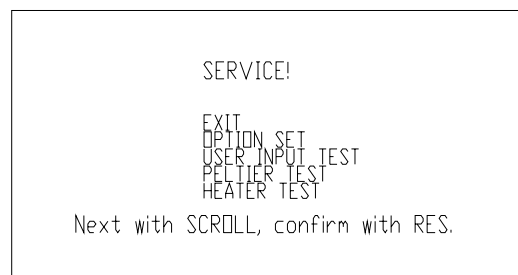

Fig. 56
- Then the main menu for the service routine (fig. 56) is shown as well as "Next with SCROLL, confirm with RES." To quit the menu, please press the button (fig. 54.4).